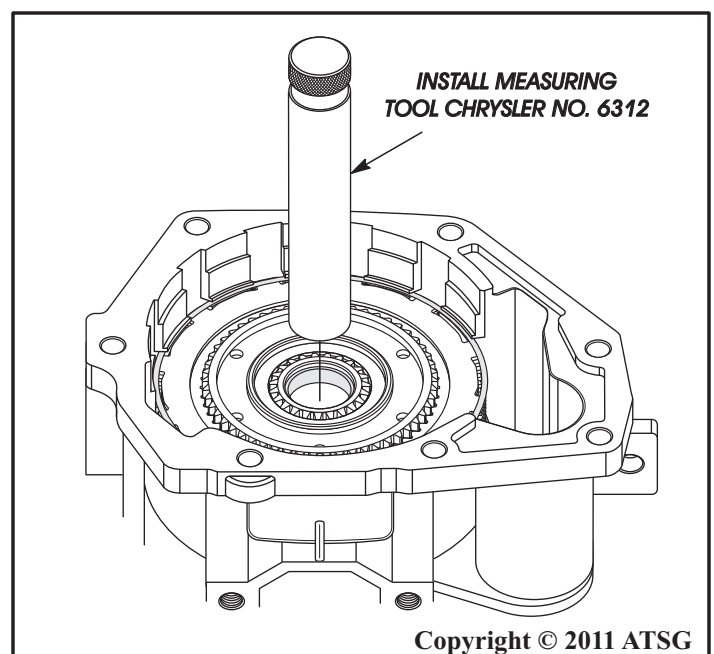

Figure 234
49. Insert Chrysler measuring tool 6312 through sun gear, as shown in Figure 234, and ensure it is fully seated against overdrive planetary.